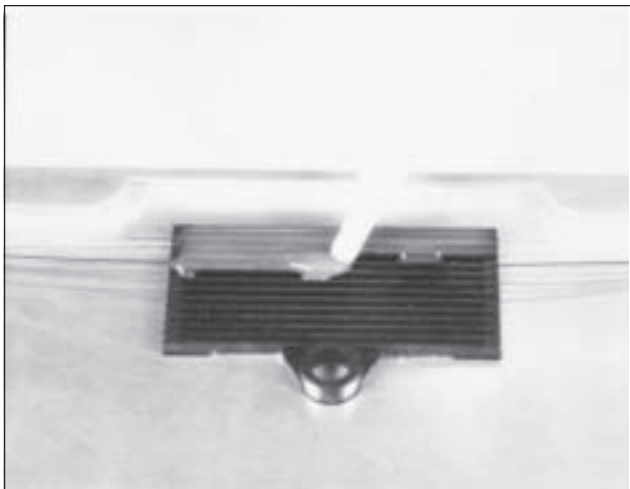

Figure 9
10.3 When the organizer is filled or all the fiber pairs are spliced, fill the organizer grooves with RTV silicone compound. Be sure to fill only the grooves with fibers in them. **DO NOT OVERFILL** (Figure 9).